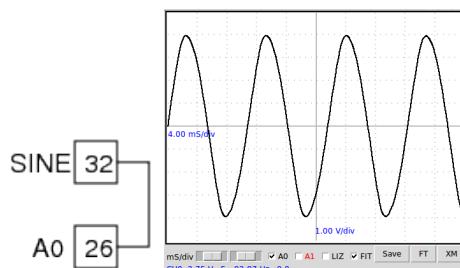

FIGURE 2.5 – AC voltage waveform from SINE
- The waveform is shown in the figure 2.5. Enable the 'FIT' option to calculate the amplitude and frequency by fitting the data with the equation $V = V_0 \sin(2\pi ft + \theta)$, where V_0 is the amplitude and f is the frequency.